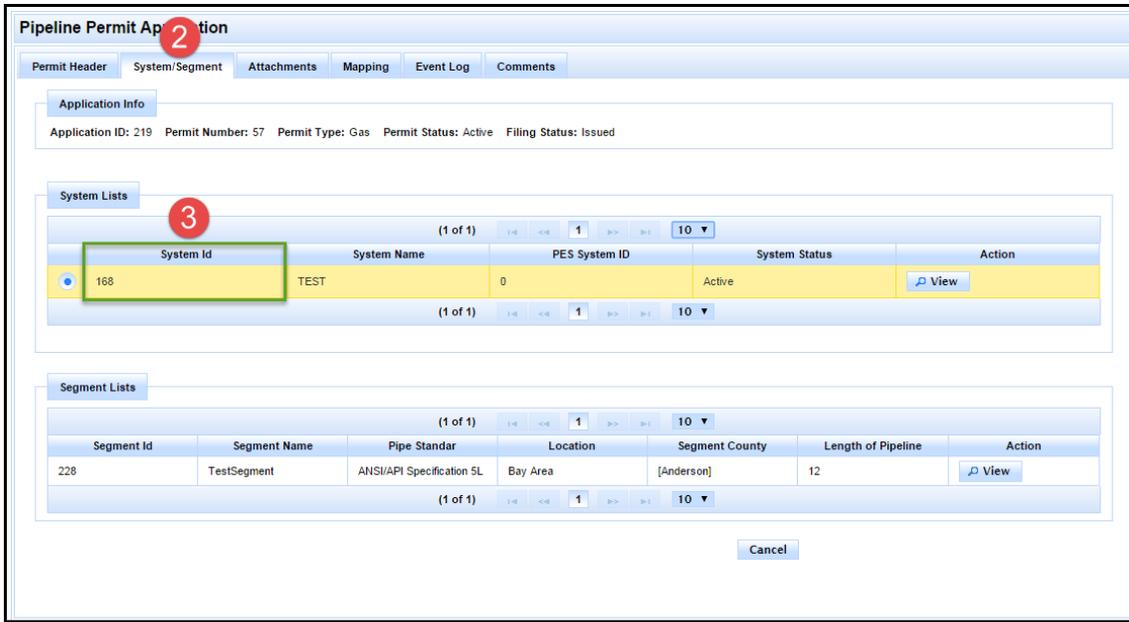

Figure 66: Transfer a Segment, Steps 2 and 3
3. Make a note of the **System ID** of the system that the segment will be transferred **TO**. The example in Figure 66 will be transferring a segment to *System 168*.